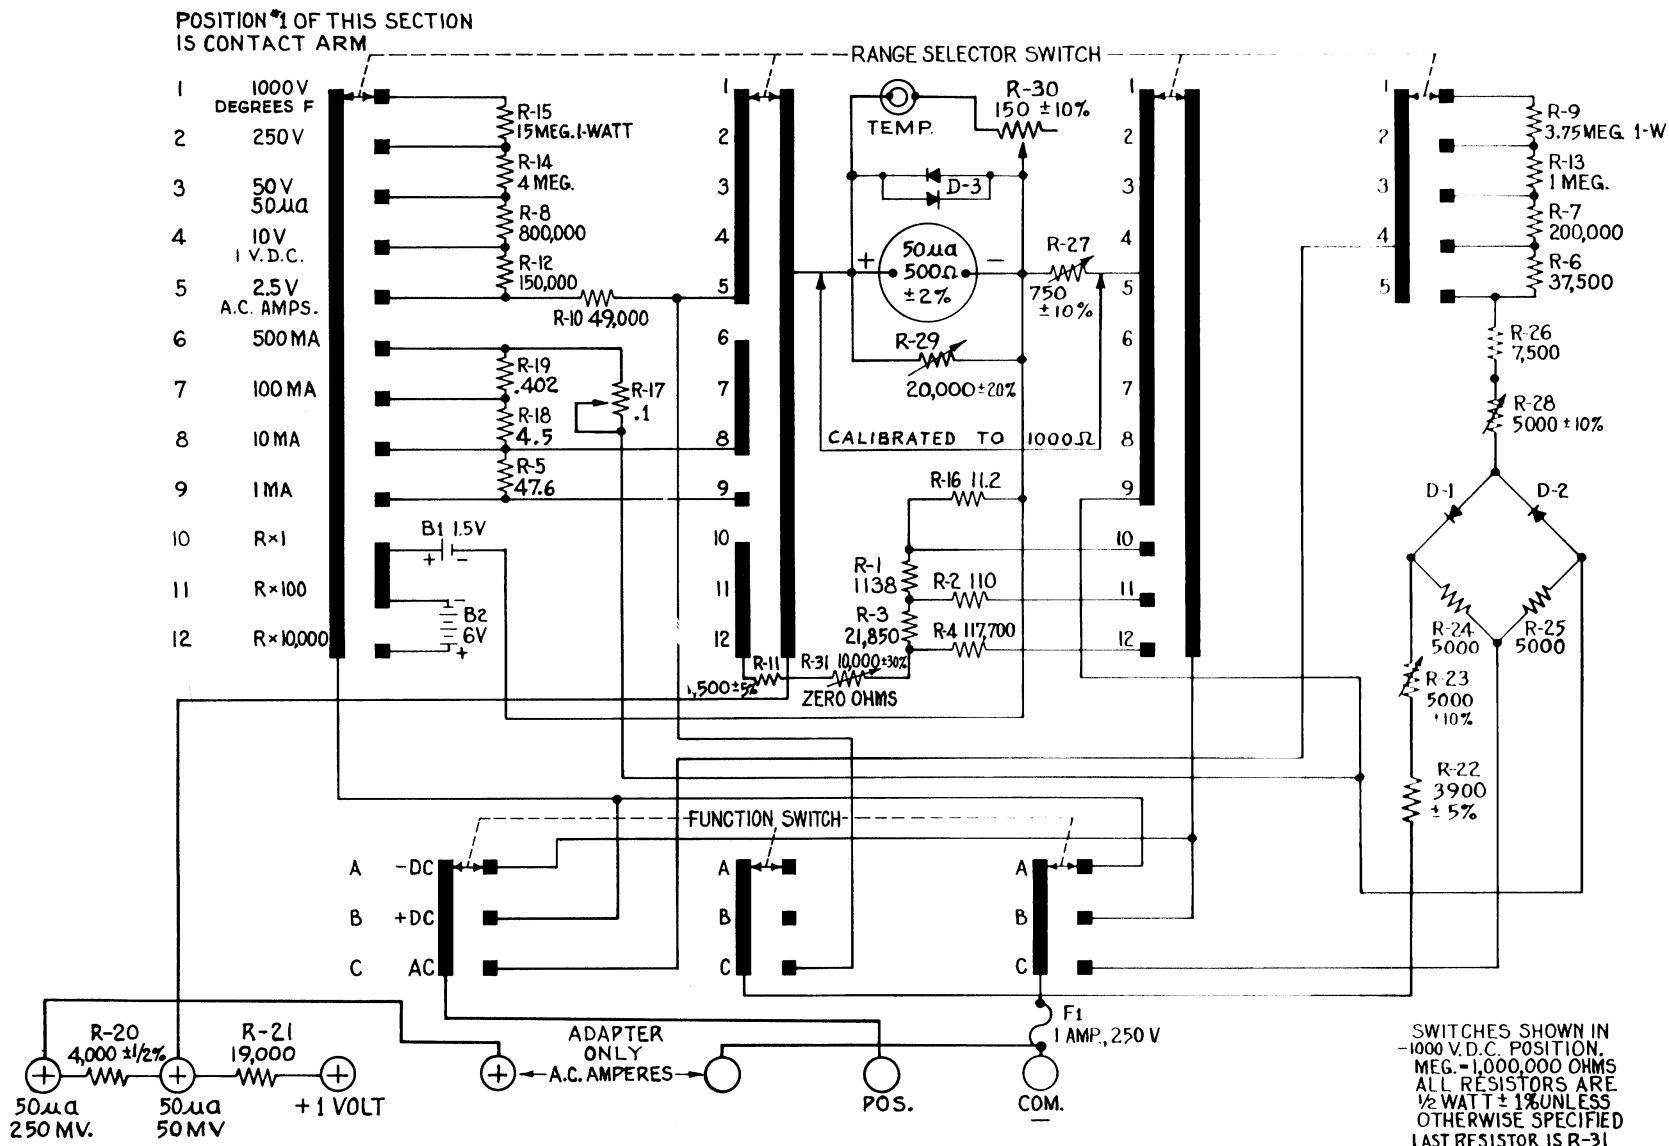

Figure 5-1. Simpson 255, Schematic Diagram
**5.5.1** There are two small rectifiers located at the top of the printed circuit near the large 1.5 volt cell; they are used to rectify the AC voltages for measurement. They are shown as D-1 and D-2 in the overall schematic diagram (Figure 5-1). Both rectifiers act in the meter circuit to effectively create a full wave rectifying action. If either or both should fail, the AC readings will be in error.